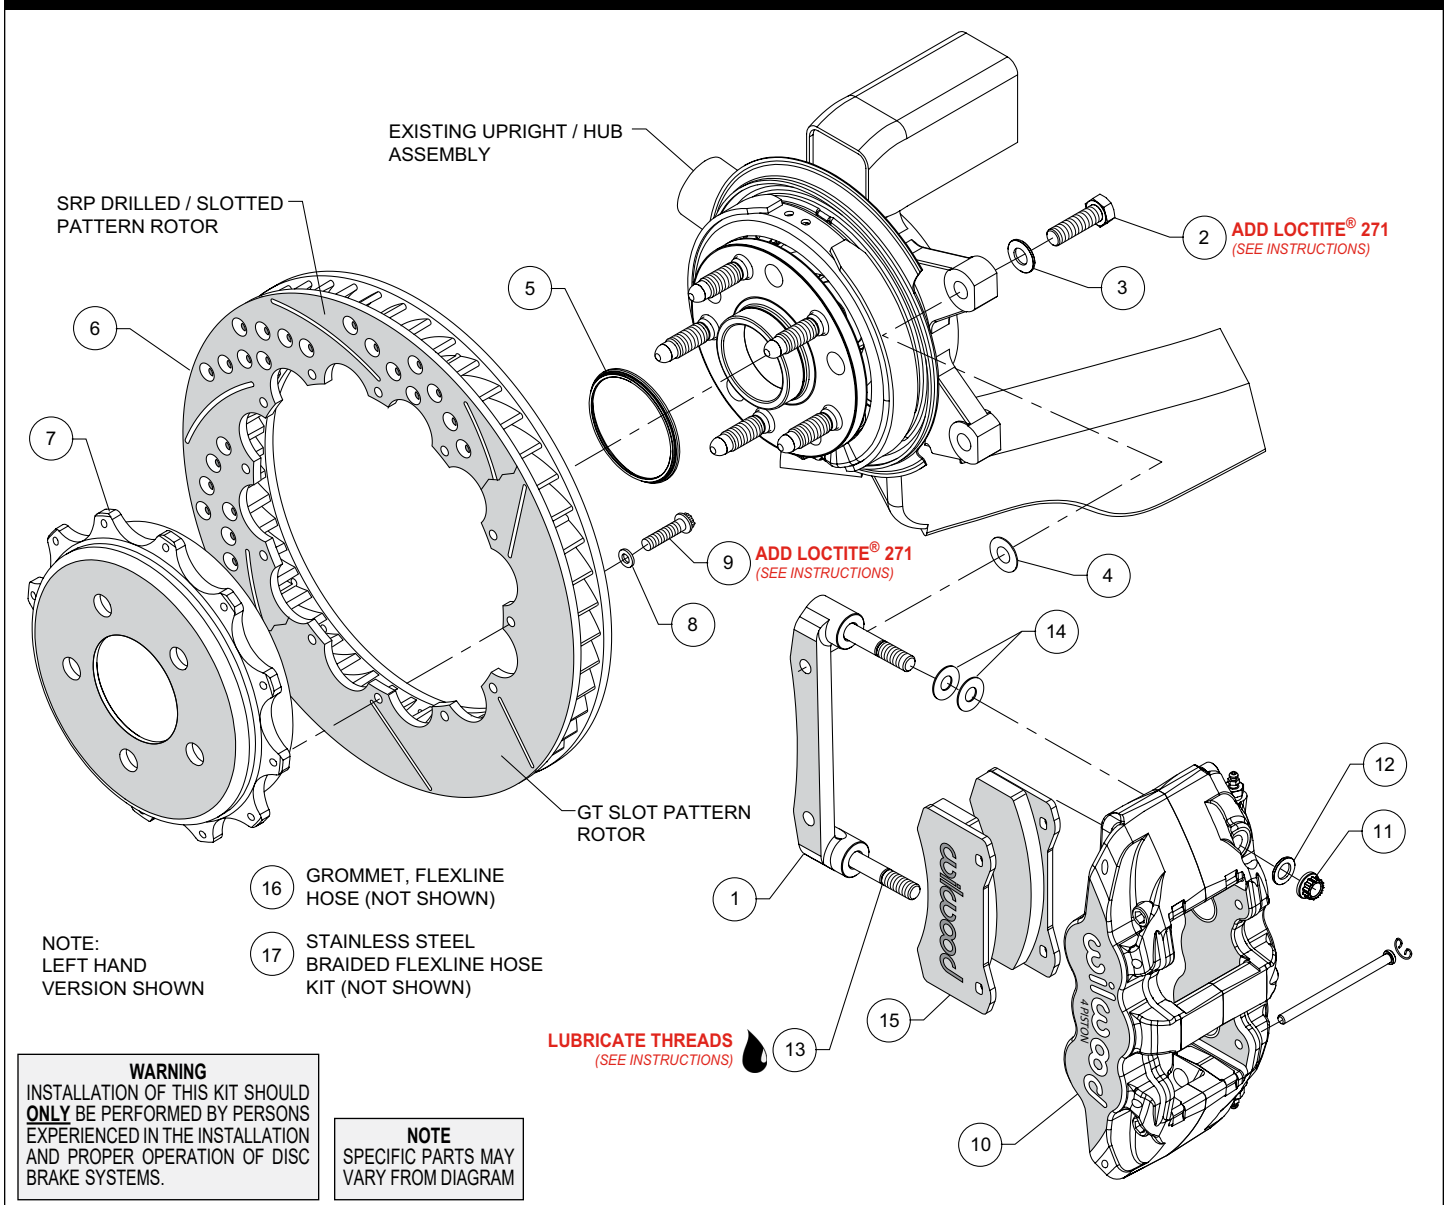
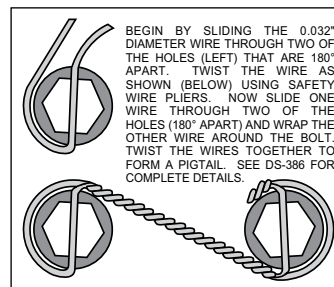

Figure 1. Typical Installation Configuration
Figure 4. Safety Wire Diagram
**Assembly Instructions** (numbers in parenthesis refer to the parts list and Figure 1 on the preceding pages):
•The caliper mount bracket (1) should initially be installed with clean, dry threads on the mounting bolts. Orient the bracket as shown in Figure 1, and Photo 1, and install using washers (3) and bolts (2). Initially place one shim (4) on each bolt between the bracket and upright, Figure 1. Temporarily tighten the mounting bolts. **NOTE:** The bracket must fit squarely against the mount bosses on the upright. Inspect for interference from casting irregularities, machining ridges, burrs, etc. Later, after the caliper alignment has been checked, the mount bolts will be secured using red *Loctite*® 271.
•Orient the rotor (6) and the hat (7) as shown in Figure 1 and Photo 2. Attach rotor to hat using bolts (9) and washers (8). Apply red *Loctite*® 271 to the bolt threads and torque to 140 **in-lb** using a criss-cross pattern. For an added measure of security, the bolts may be safety wired using standard 0.032 inch diameter stainless steel safety wire as shown in Figure 4. Please refer to Wilwood's data sheet DS-386 (available at [www.wilwood.com/Pdf/DataSheets/ds386.pdf](http://www.wilwood.com/Pdf/DataSheets/ds386.pdf)) for complete safety wire installation instructions.
•Slide the rotor registration adapter (5) onto the axle register on the axle hub with the smaller O.D. facing outward, Photo 3. Slide the hat/rotor assembly onto the axle hub. **NOTE:** The hat must fit flush against the axle hub flange or excessive rotor run out may result. Install three lug nuts (finger tight) to keep the hat/rotor assembly in place while continuing with the installation, Photo 4.
•**NOTE:** This kit contains distinct right and left hand calipers. The calipers must be mounted with the bleed screws pointing upward. Lubricate the caliper mounting studs (13) with lightweight oil. Initially place two .030" thick shims (14) on each stud as shown in Figure 1 and Photo 5. Mount the caliper (10) onto the bracket (1) using lock nuts (11) and washers (12), Figure 1. Temporarily tighten the lock nuts and view the rotor through the top opening of the caliper. The rotor should be centered in the caliper, Photo 6. If not, adjust by adding or subtracting shims (4) between the bracket and the upright. Always use the same amount of shims on each of the two mounting bolts. Once the caliper alignment is correct, remove the bracket mounting bolts (2) one at a time, apply red *Loctite*® 271 to the threads, and torque to 60 ft-lb.
•Remove the two pad retaining pins from the caliper (10) by carefully popping out the pin retaining clips and sliding out the pins. Insert the brake pads (15) into the caliper from the bottom, Figure 1 and Photo 7. With the friction material facing the rotor, secure the brake pads in place with the pad retaining pins and clips, Photo 8. Reinstall the caliper onto the caliper mounting